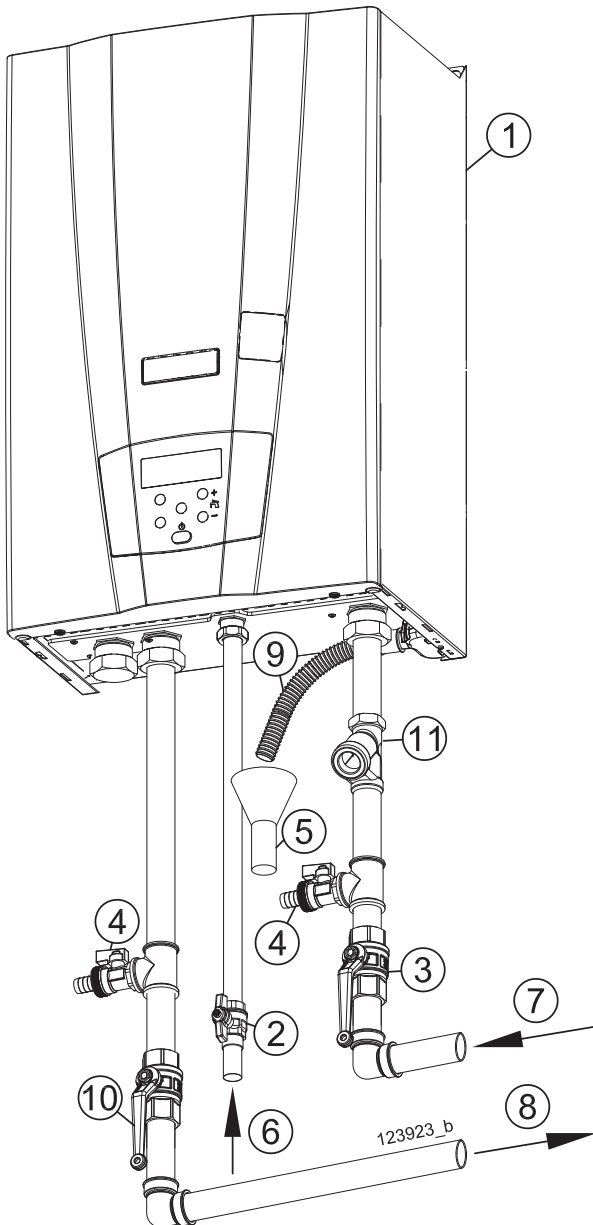

Figure 5-5 - Typical piping
The appliance is protected against overpressures by a safety valve rated to 10 bar (see figures 3-1 and 3-4 detail "28"). The safety valve drain is conveyed on the same pipe "9" as per figure 5-5.
CAUTION !!! The example in figure 5-5 is a concept drawing only. It is up to the system designer to determine the necessary components, including additional equipment which in the judgement of the designer are appropriate, in order to properly size, configure and design that system and to ensure compliance with local and national code.
Key of figure 5-5:
- Install the appliance as shown in figure 5-5;